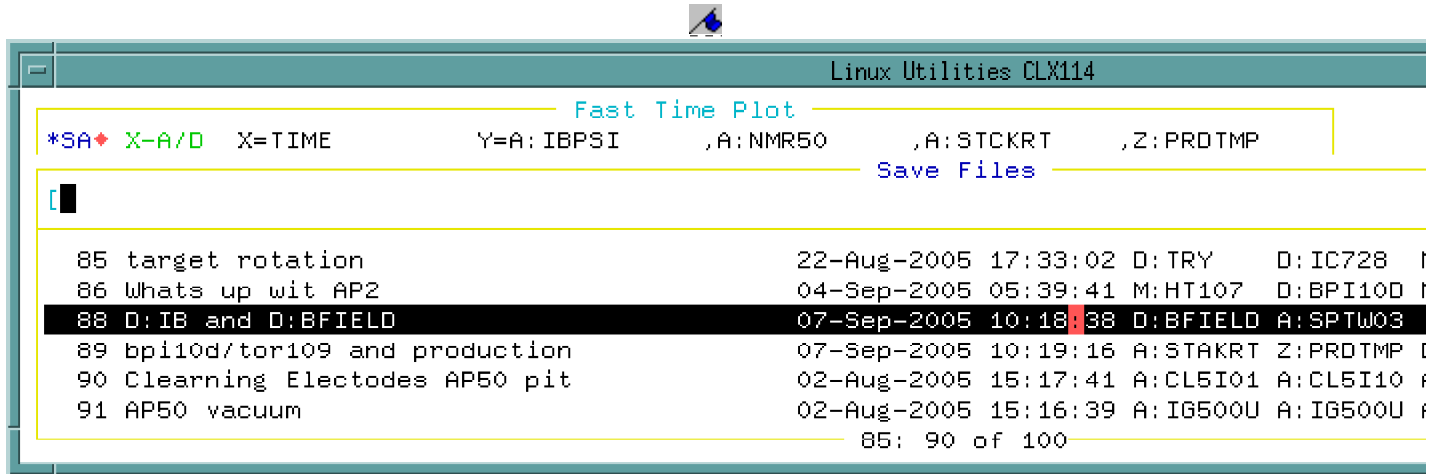

Figure 11: From the Utilities Window, click on FTP, then click on Restore, and then select P-bar. Select file 88 and start the FTP.
Figure 12: FTP Pbar #88 started as shown in Figure 11. This FTP will show changes to the Debuncher bend bus and their effect on the Debuncher gauss probe, beam on the injection orbit, and stacktail power.
2. Start a FTP from Utility Window FTP Pbar File 89. Do not overwrite the plot that was started above in Figure 11. This FTP shows normalized circulating Debuncher beam, stack rate and production. The goal is to not decrease normalized circulating Debuncher beam, and to increase stack rate and production.